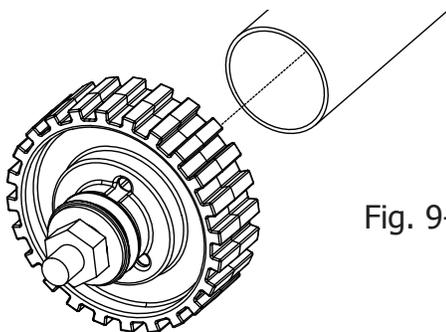

Fig. 9-7
**9-15:** Insert one short-bolt ratchet wheel assembly into the open end of a pole assembly as shown in Fig. 9-7 on page 19. Check that the pole end is inserted completely into the pole assembly.